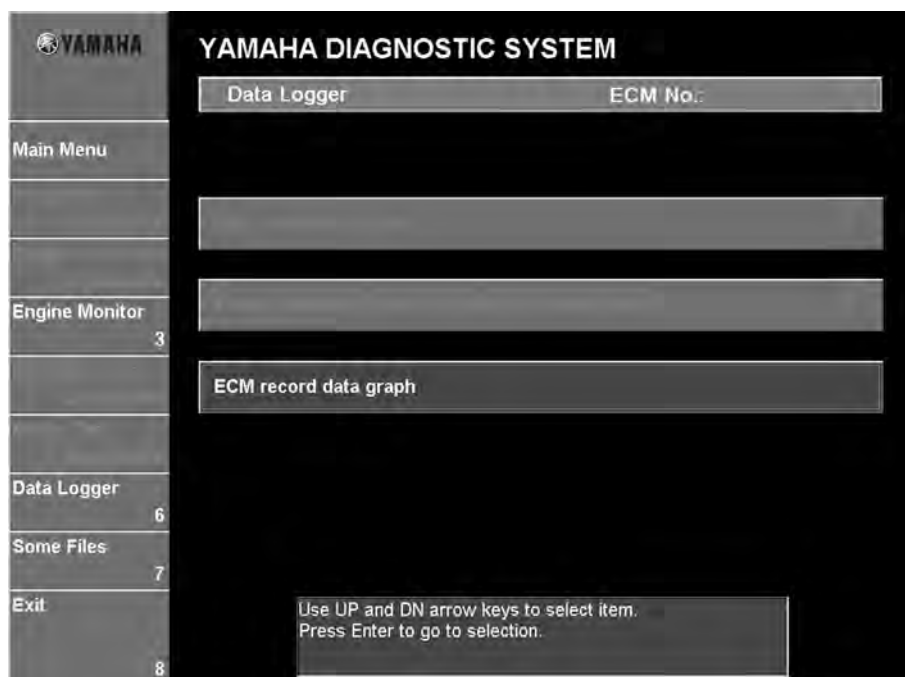

Fig. 124
1. Click the **ECM record data graph** button or press the up or down arrow key on your keyboard to select it and press the Enter key. (Fig. 124)